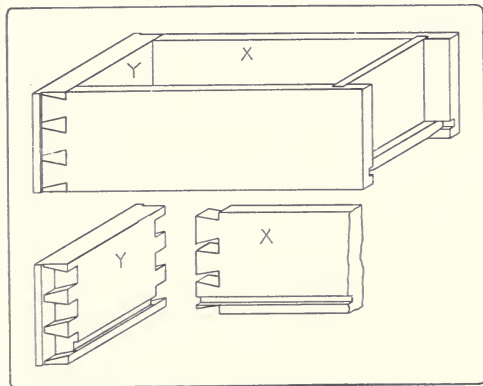

Fig. 287. Dovetailed Drawer Construction.
*Drawers.* In the best form, the sides are dovetailed to the front for strength, Fig. 287, for whenever the drawer is opened the front tends to pull away from the sides. This dovetail is half blind, so that the joint will not appear when the drawer is shut. In order that the drawer may always run freely and yet the front fit the opening as
close as possible, it is common practice to cut a shallow rabbet on the ends of the front, so that the body of the drawer is a little narrower than the front is long, Fig. 287. Or the front may be attached